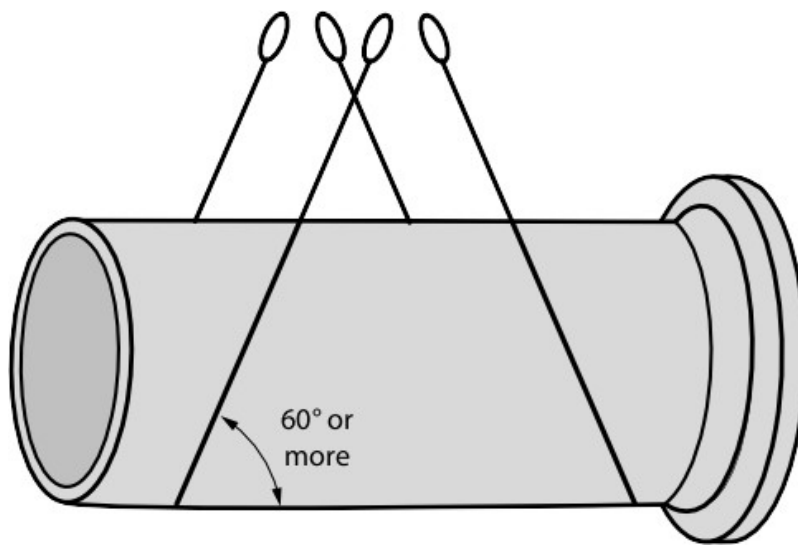

Figure 9 Lifting reinforced concrete pipe section
- Figure 9 Lifting reinforced concrete pipe section by ITA is licensed under a CC BY-NC-SA licence.